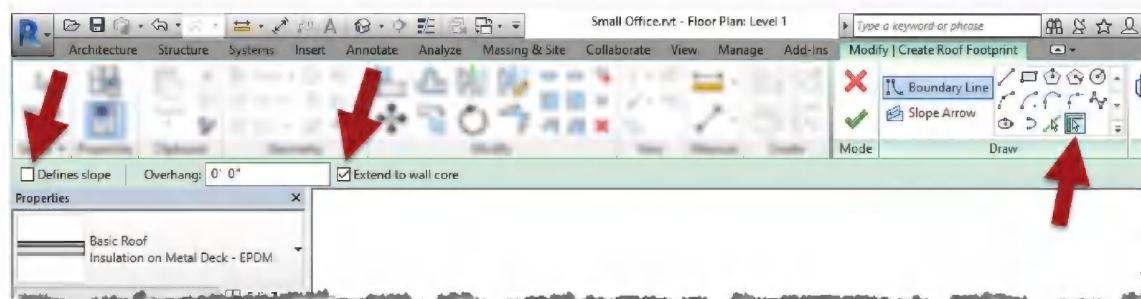

FIGURE 2-4.4 Roof sketch tools
Also notice the *Ribbon*, *Options Bar* and *Properties Palette* have temporarily been replaced with Sketch options relative to the roof (Figure 2-4.4).
8. Click **Extend to Core** on the *Options Bar*, and make sure **Defines Slope** is not checked (Figure 2-4.4).